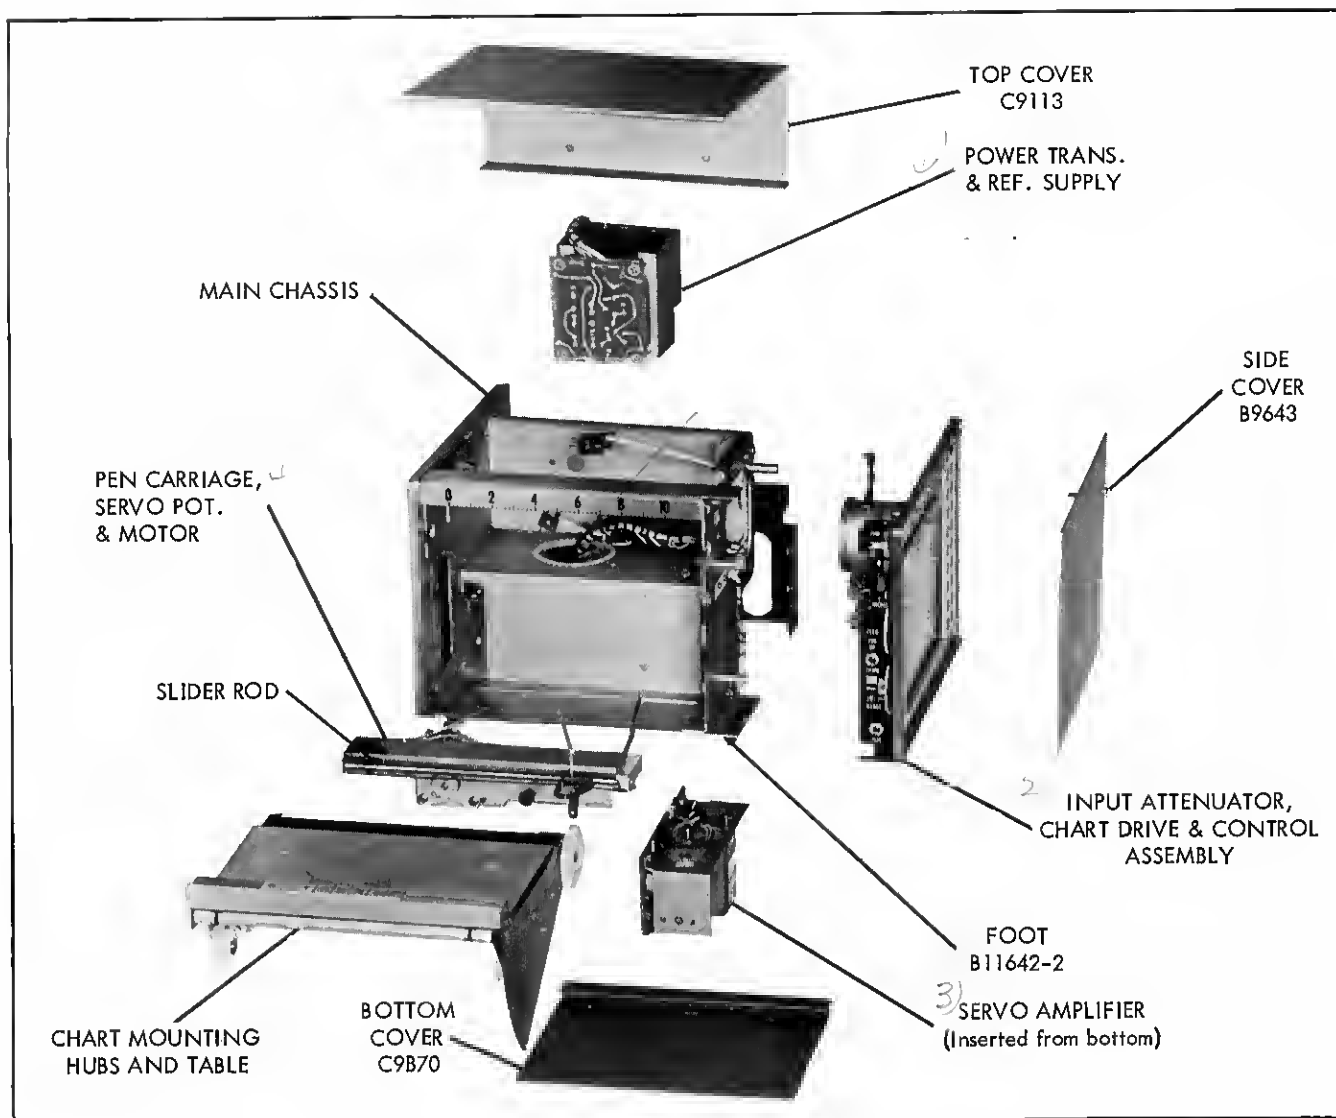

FIGURE 5-1. MAJOR ASSEMBLY DIVISIONS
c. SLIDER ROD. The slider rod (see figure 5-1) should be kept free of any oils or dust. Spray on Freon (supplied in Accessory Kit) and wipe off with a clean cloth. This should be done every 6 months.